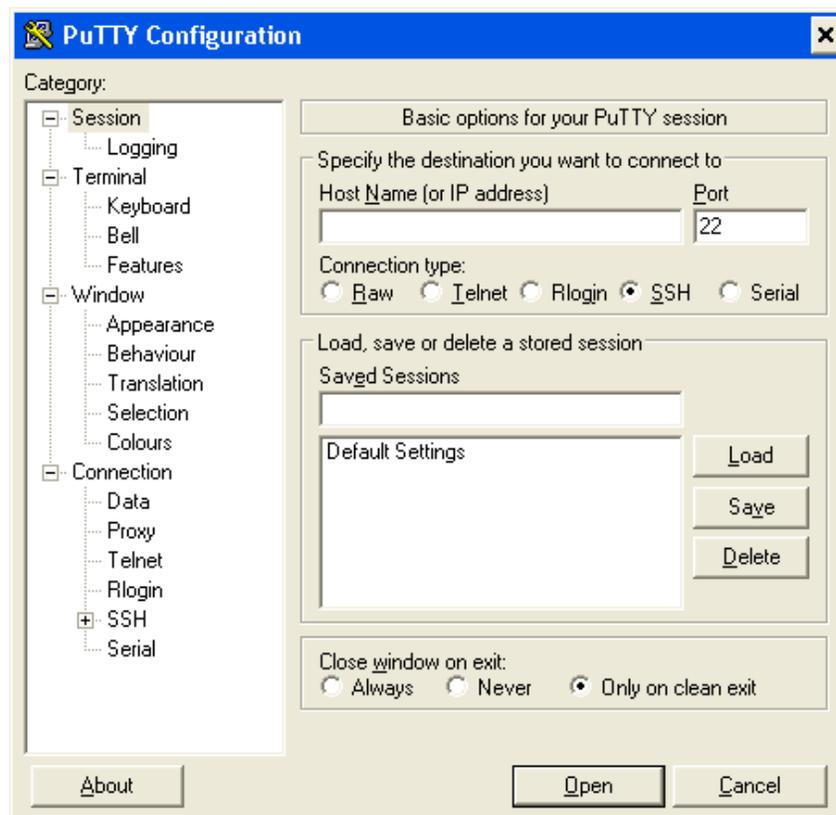

Figure 13: PuTTY Configuration Window
1. Click the putty.exe. This opens PuTTY Configuration window (Figure 13).